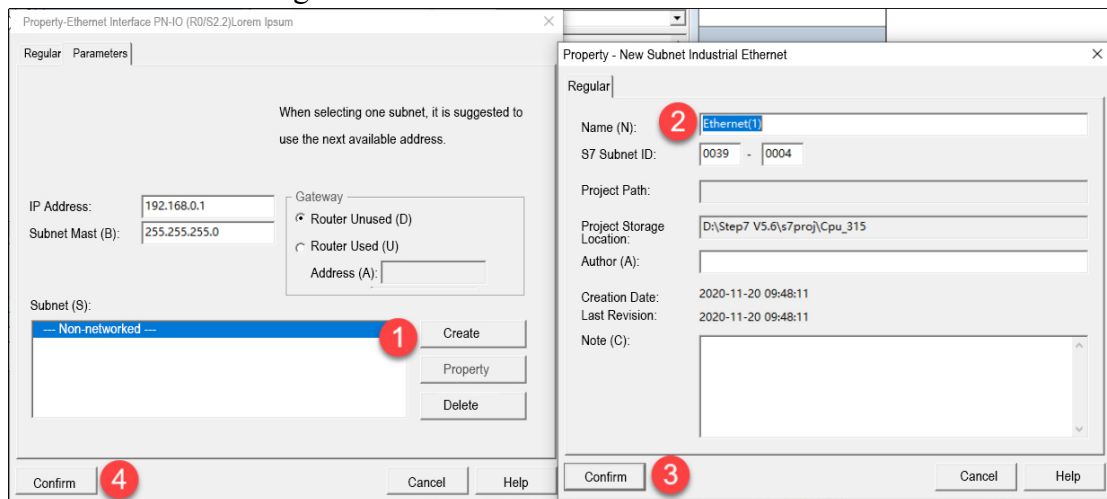

Fig 5-2-24 Add Ethernet in subnet
Create button, and create a new subnet Ethernet (1). Click OK. See Fig. 5-2-24 for details.